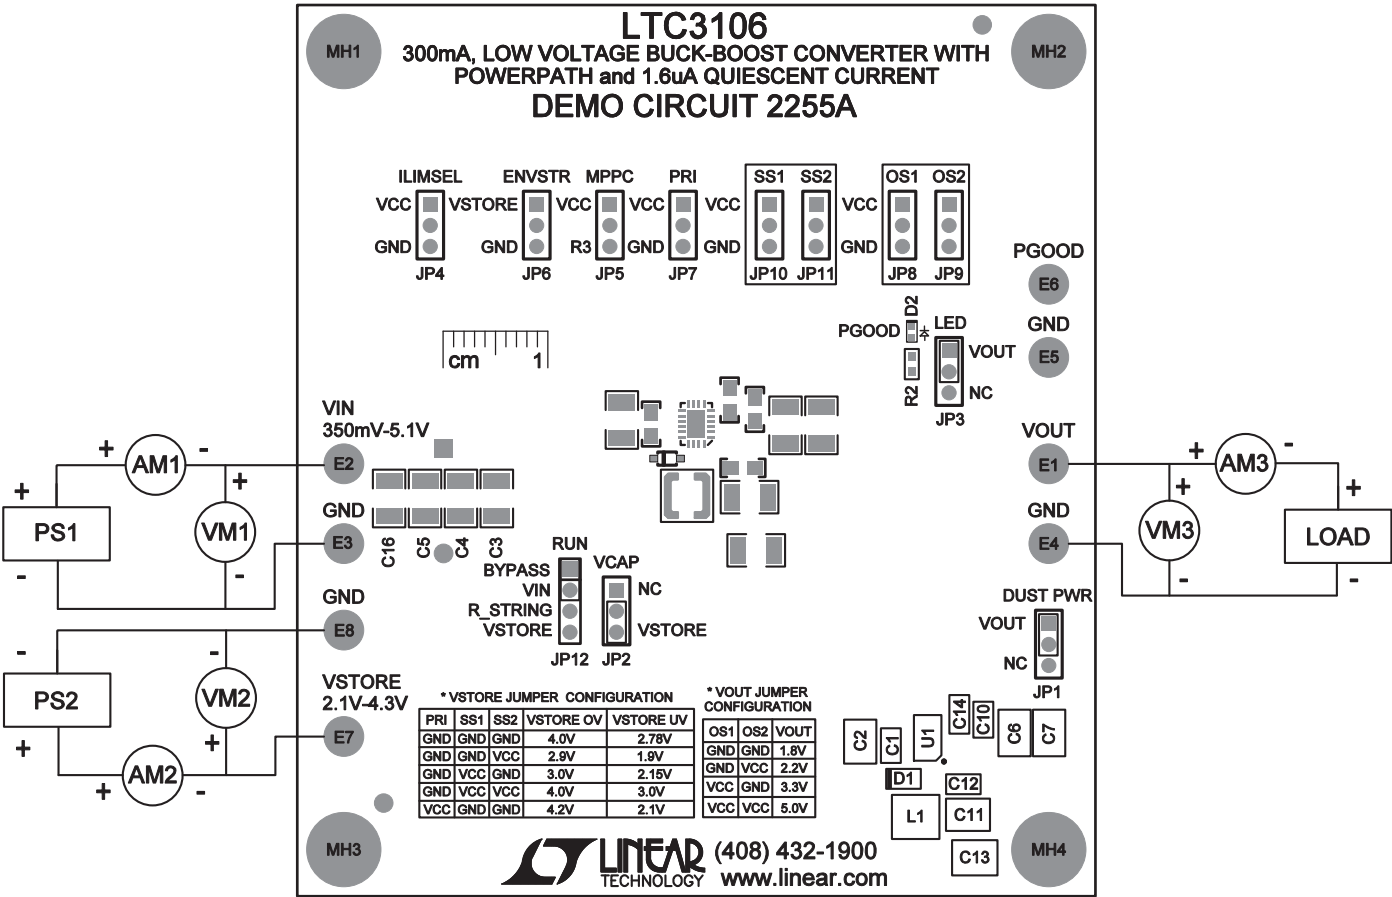

Figure 5. Proper Measurement and Equipment Setup
Using short twisted pair leads for any power connections and with all loads and power supplies off, refer to Figure 5 for the proper measurement and equipment setup. The power supplies (PS1 and PS2) should not be connected to the circuit until told to do so in the procedure below.
2. With power OFF connect the power supplies (PS1, PS2) as shown in Figure 5. If accurate current measurements are desired (for efficiency calculation for example) then connect ammeters in series with the supplies as shown. The ammeters are not required however.
3. Connect a 3.3mA load (1k Ω) to VOUT as shown in Figure 5. Connect an ammeter in series if accurate current monitoring is desired.